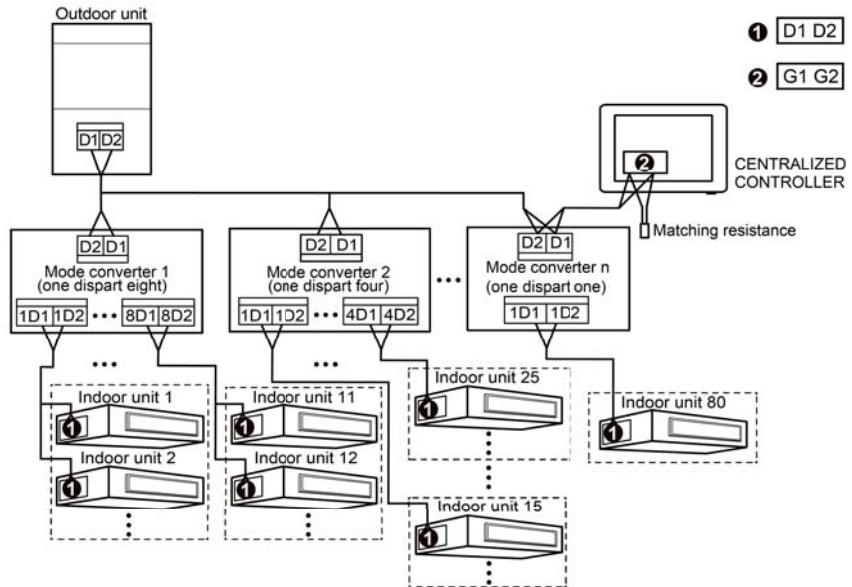

Fig. 3.6 Centralized controller connects to network of heat recovery mode converter
- (4) The centralized control address dial code (SA2\_Addr-CC) is the centralized control address when centralized control is required between different refrigeration systems; and the factory default setting is "00000".
- (5) When the centralized controller is connected to the heat recovery network, connect the network as shown in Figure 3.6. Method 2 is also applicable to the centralized controller connected to the heat recovery network.